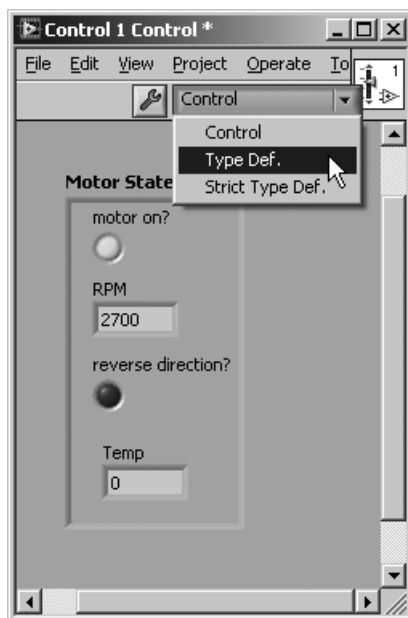

Figure 13.66
5. The Control window has a drop-down menu called **Type Def status**. By default it is set to “Control.” Click on this and choose “Type Def,” as shown in Figure 13.66.